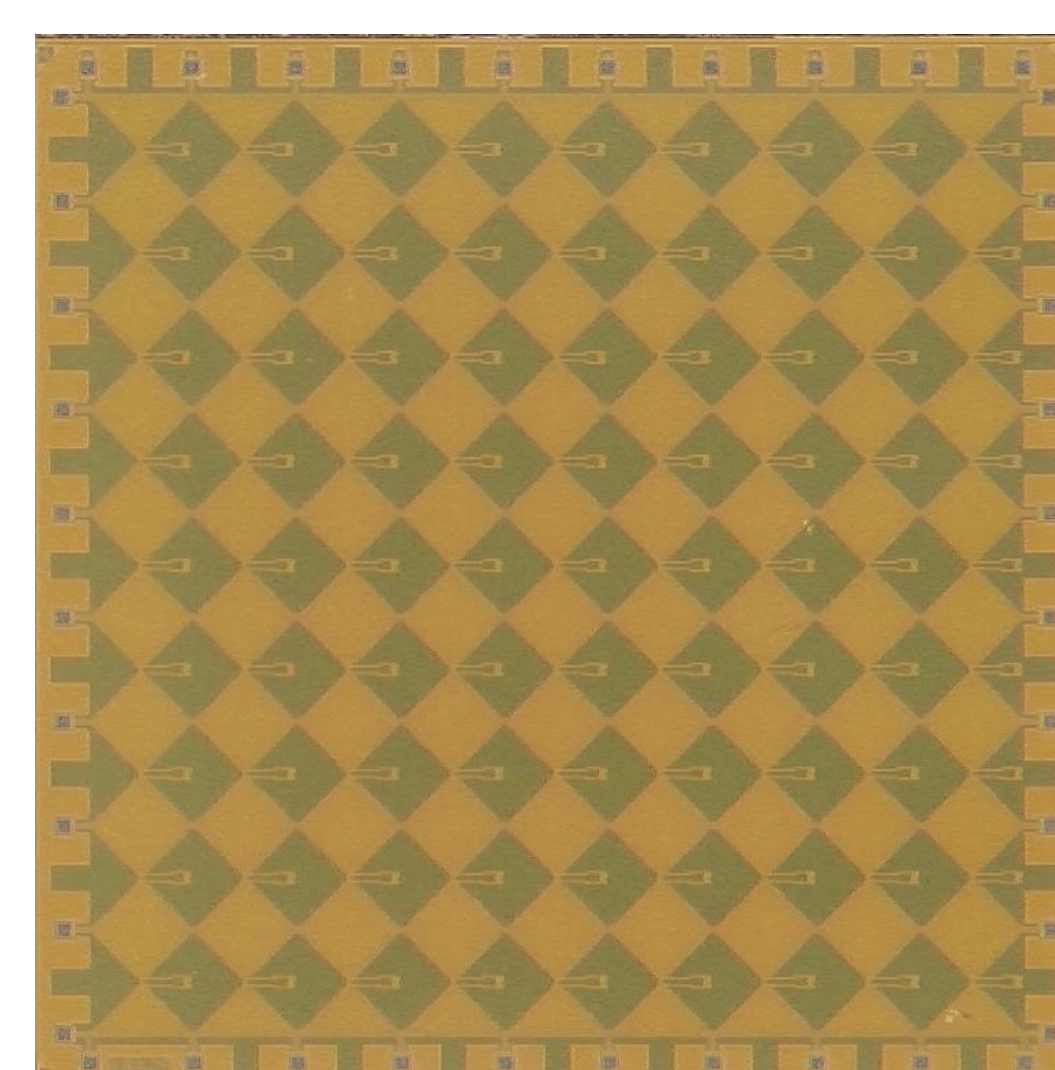

Fig 5. Chip of phase shifter array
- W-band phase shifter array chip is shown in Fig 5. 9x9 phase shifter array is designed single chip. DC bias and ground pad is located in edge of chip.